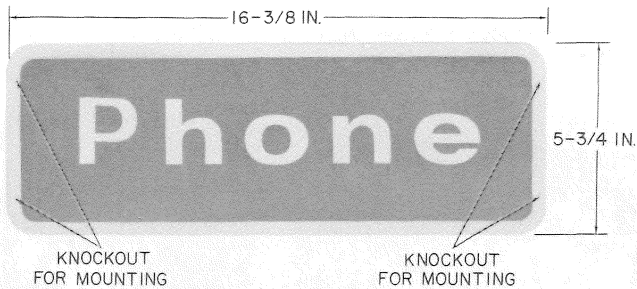

Fig. 11—KS-20125, List 1 Sign
(a) KS-20125, List 1 sign (Fig. 11):
3.12 These signs may be mounted on flat surfaces or perpendicular to a wall (Fig. 11 or 19).